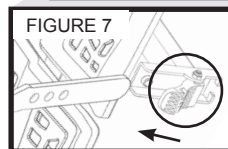

FIGURE 7
- On one side of the Table Bed, lift the Cam Lock up all the way to unlock (Figure 7).